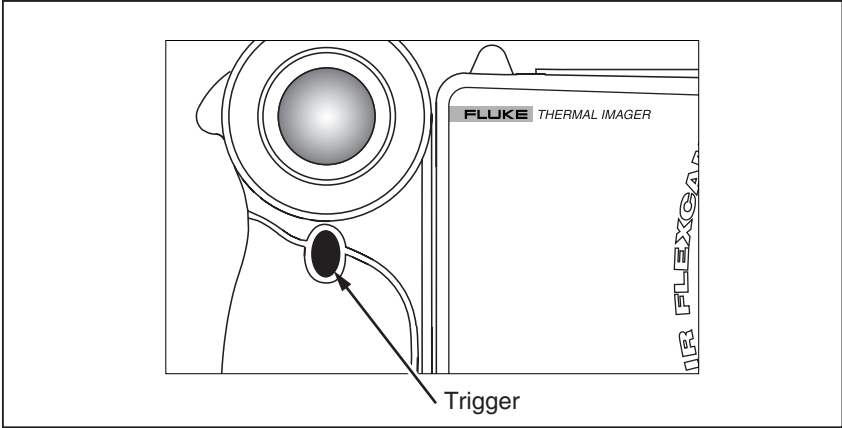

Figure 1-8. Capturing an Image
1. Tap the TRIGGER button once (shown in Figure 1-8) to pause the live image.